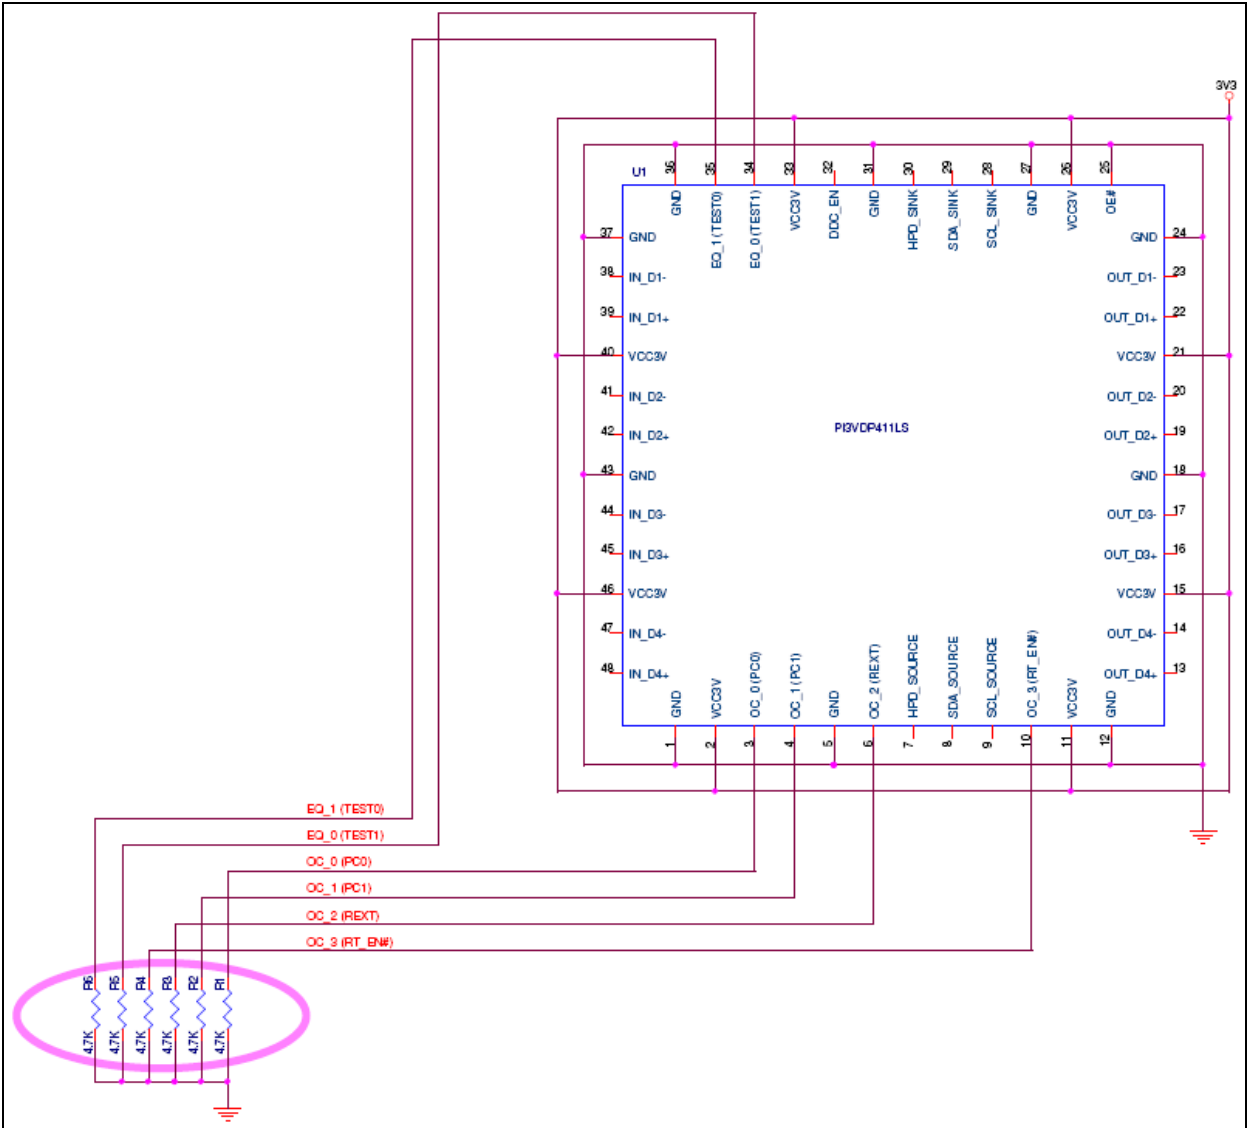

Figure 3: PI3VDP411LS PCB Schematic with Appropriate Pull-down Resistors at Control Pins
Since OC and EQ pins of PI3VDP411LS(T) are designed to have 100kΩ internal pull-up resistors, external pull-down resistors are required on PCB schematics to set some of these pins to Low level. It is recommended that users add pull-down resistor strapping for OC and EQ control pins as shown in figure 3.